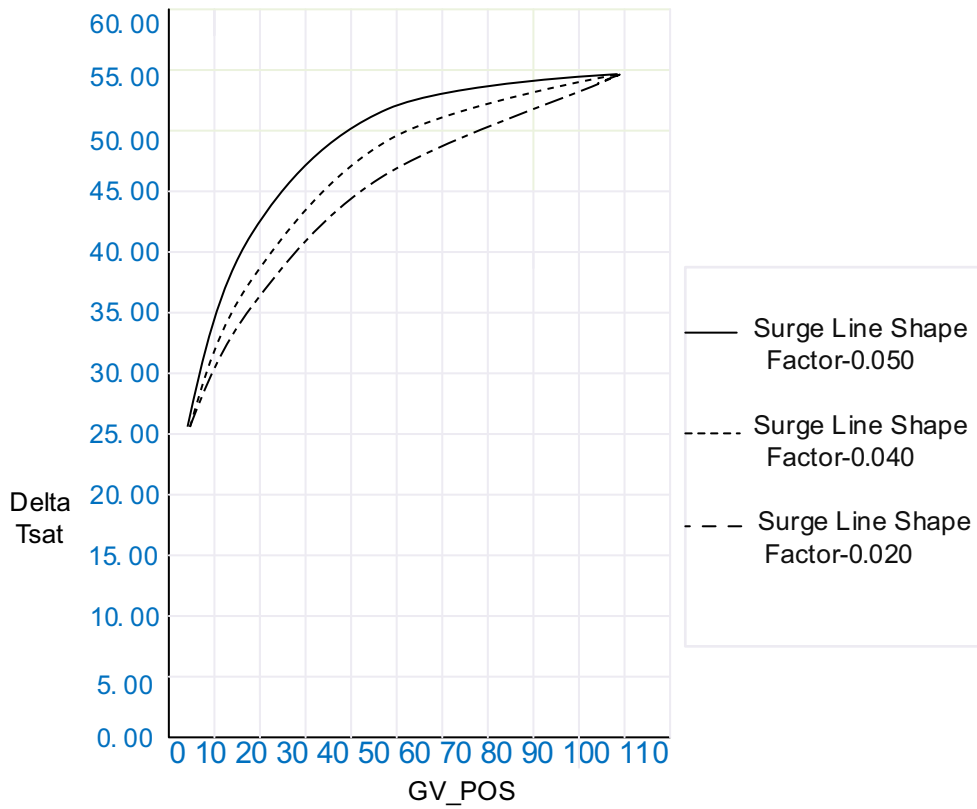

Fig.39 Effect of SURGE LINE SHAPE FACTOR on Surge Prevention
- If chiller surges only at medium load region, surge line shape factor should be increased by 0.01 for each step until there is no abnormal surge occurs. **See Fig.39** for the effect of surge line shape factor on surge prevention line.
- If the problem only occurs at medium load region, surge line shape factor should be decreased by 0.01 for each step until chiller enters real surge. **See Fig.39** for the effect of surge line shape factor on surge prevention line.